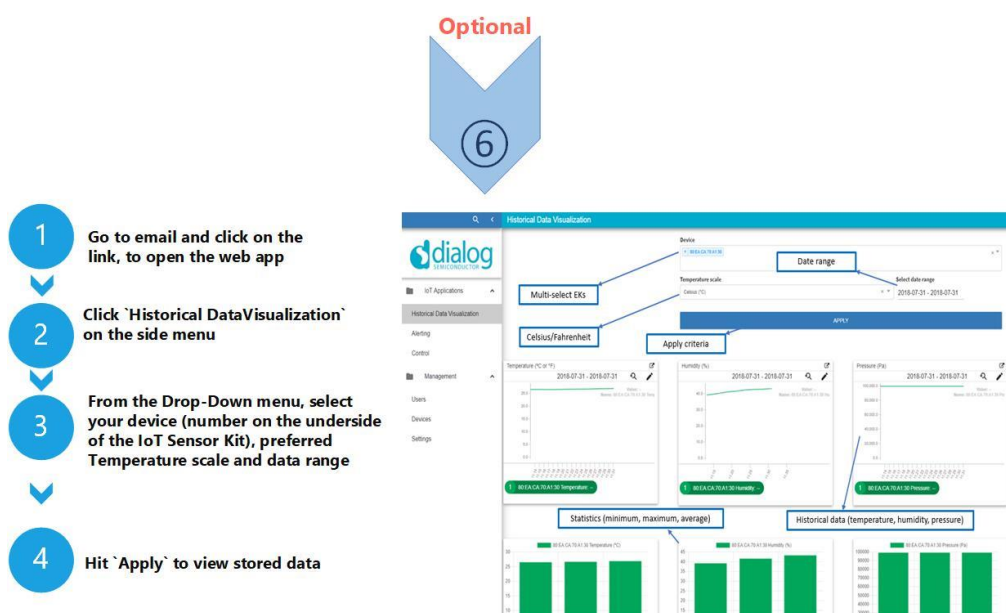

Figure 15: Applications: Historical Data
- View historical data for a range of time. Example: View temperature logged over the 3 last days. Refer to **Figure 15**.